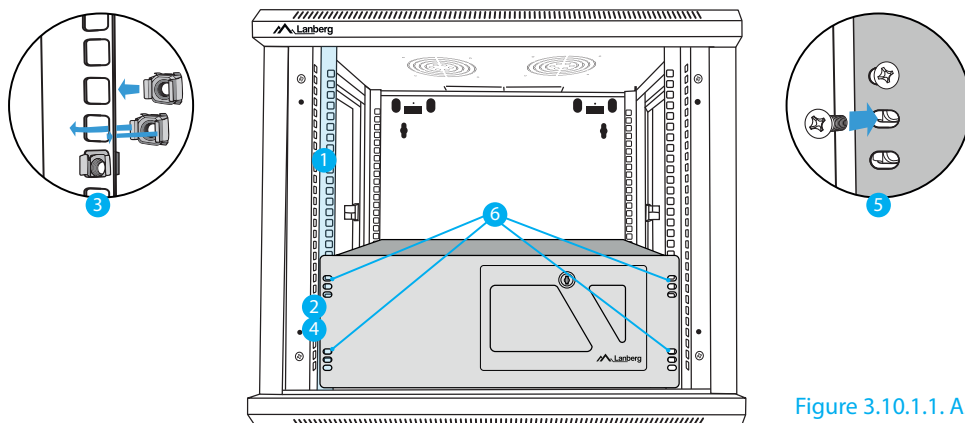

Figure 3.10.1.1. Assembling in rack
1. Choose 12 free slots, in the row, each with the height of 1U, on vertical mounting rails of the ICT / 19" rack cabinet – Figure 3.10.1.1.
2. Use the server chassis as the reference, to match correctly the 12 holes on the vertical mounting rails, into which the M6 bolts have to be inserted – Figure 3.10.1.1.
3. Insert metal baskets, bent at the end, with mounting basis inside them, into the 12 designated holes (from the point no. (2)), in such way, so the bent ends of metal baskets will slide, click into and grab the designated holes on the vertical mounting rails, from the outside – Figure 3.10.1.1.
4. Again use the server chassis as a reference (just like in the point no. (2)) – Figure 3.10.1.1.
5. Insert on the bolts their corresponding nuts (If there are any) – Figure 3.10.1.1.
6. Insert and firmly screw the 12 bolts, from the outside, through the selected holes (point no. 2) of the vertical mounting rails. It is obligatory to remember and have those elements correctly screwed to the mounting basis of M6 bolt – Figure 3.10.1.1.